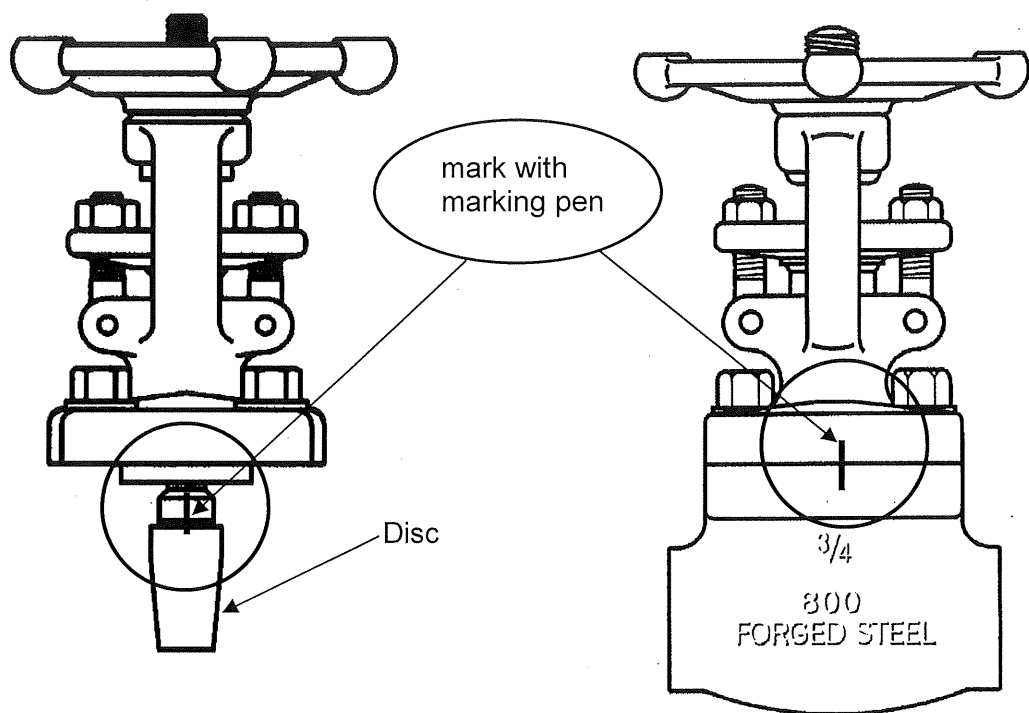

Figure 6.1 Example for Marking Method of Match mark
- Make the match mark on the body-bonnet joint by marking pen as shown in Figure. 6.1 before loosening the bonnet bolts. When assemble the valve, body and bonnet shall be fitted by match mark.
- 4) Remove the disc from the stem. Caution shall be so taken as not to cause damages to its seating faces. For re-assembling the valve, the valve disc shall be marked a match mark as shown in Figure 6.1. As it is, valve seat surfaces are coincided as before condition and valve leakage can be prevented.
- Make the match mark on the body-bonnet joint by marking pen as shown in Figure 6.1 before loosening the bonnet bolts. When assemble the valve, body and bonnet shall be fitted by match mark.